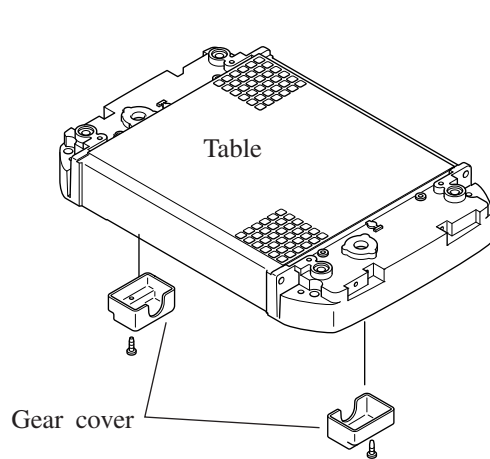

Fig.5A
- (1) Remove gear cover which is mounted under table. (See Fig.5A.)